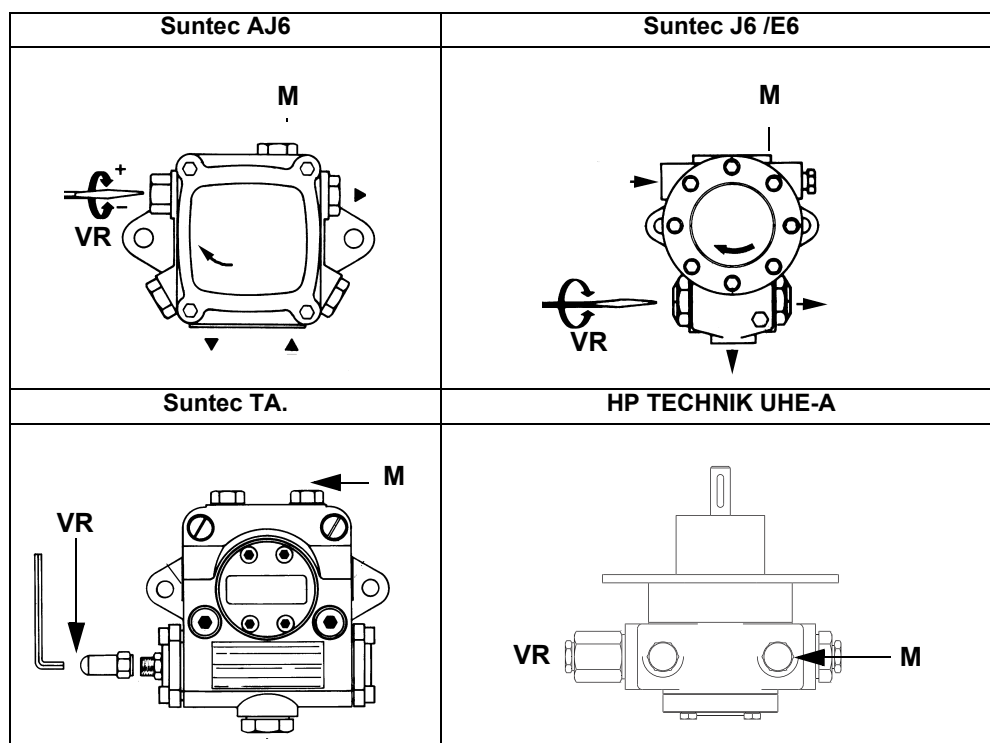
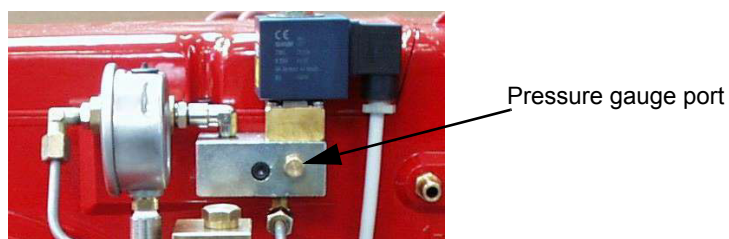
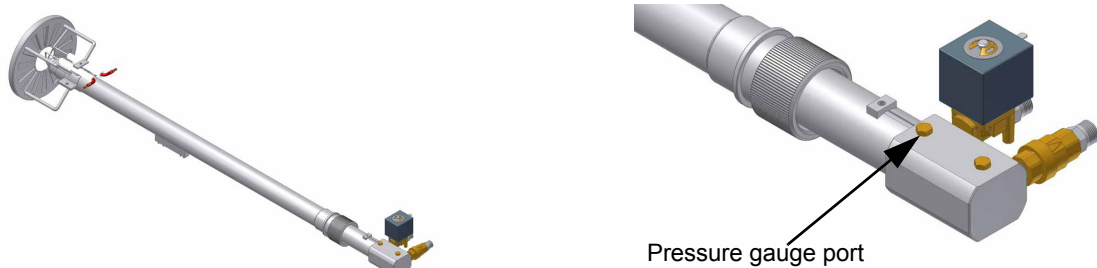

Fig. 11
Fig. 12 - Light oil manifold (PG60)
Fig. 13 - Combustion head with light oil gun
- 2 bleed the air from the **M** pressure gauge port (Fig. 11) by loosening the cap without removing it, then release the contactor.
- 4 Fig. 12 Fig. 13 the nozzle supply pressure is already factory-set and must not be changed. Only if necessary, adjust the supply pressure as follows (see related paragraph); insert a pressure gauge into the port shown on Fig. 12-Fig. 13 and act on the pump adjusting screw **VR** (see Fig. 11) as to get the nozzle pressure at 20bar (Bergonzo nozzles - see diagram on Fig. 10).